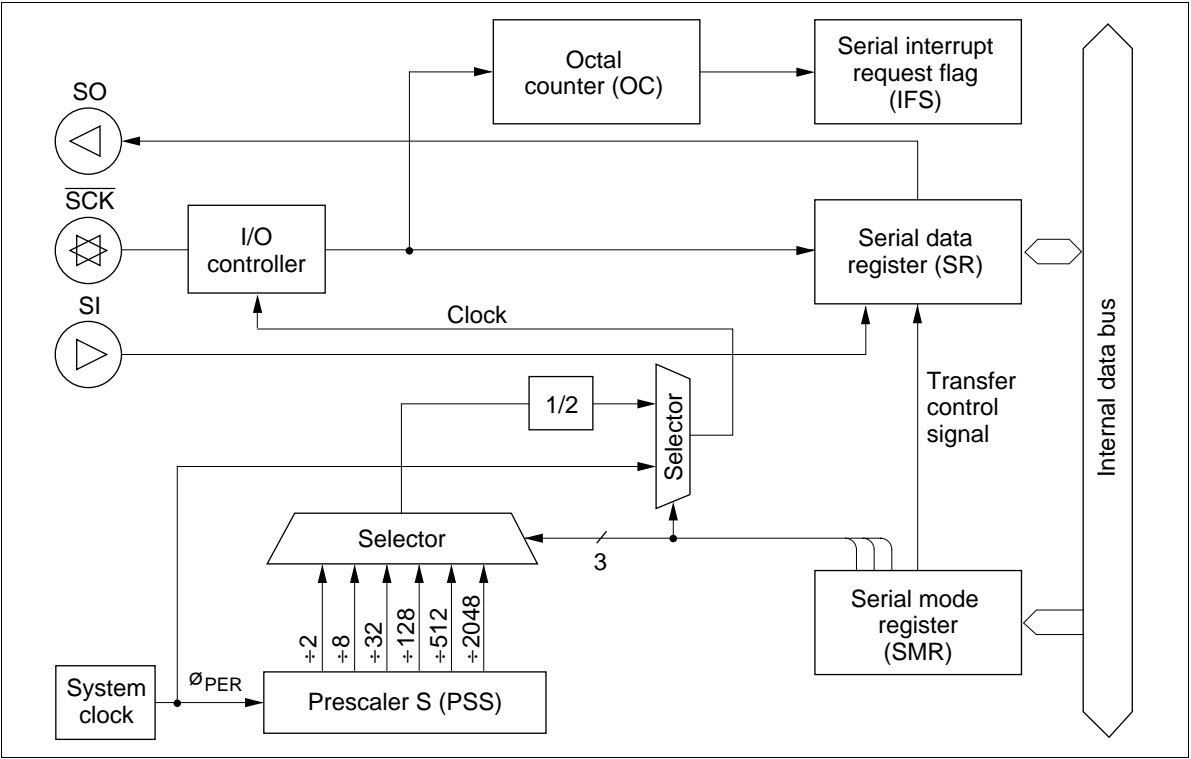

Figure 29 Serial Interface Block Diagram
The serial interface consists of a serial data register (SR), serial mode register (SMR), port mode register A (PMRA), octal counter, and selector, as shown in figure 29. The R1₀/SCK pin and the transmit clock are controlled by writing data to the SMR. The transmit clock shifts the contents of the SR, which can be read and written to by software, before transmission starts between two MCUs.